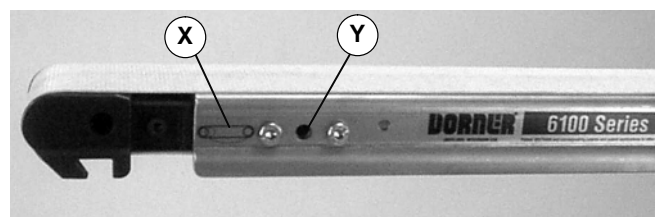

Figure 20
3. On tension end of the conveyor identified with a  label (X Figures 20 & 21), insert a 5 mm hex key wrench to engage pinion gear (Y of Figure 20).
4. On tension end of the conveyor identified with a  label (X Figures 20 & 21), insert a 5 mm hex key wrench to engage pinion gear (Y of Figure 20).
1. On tension end of the conveyor identified with a  label (X Figures 20 & 21), insert a 5 mm hex key wrench to engage pinion gear (Y of Figure 20).
**NOTE:** On pinion gear (Y of Figure 20), do not exceed a torque of 25 in-lb (2.8 Nm) for 2" to 12" (44 mm to 305 mm) wide conveyors and 40 in-lb (4.5 Nm) for an 18" (457 mm) wide conveyor. Over-tensioning the conveyor belt could cause excessive pulley bearing load and early failure.